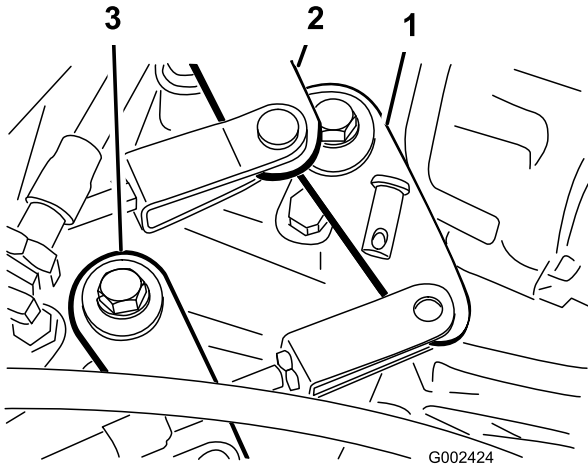

Figure 43
2. Remove the clevis pins securing the shift cables to the transaxle shift arms (Figure 43).
1. Remove the clevis pin securing the high—low cable to the transaxle (Figure 43).